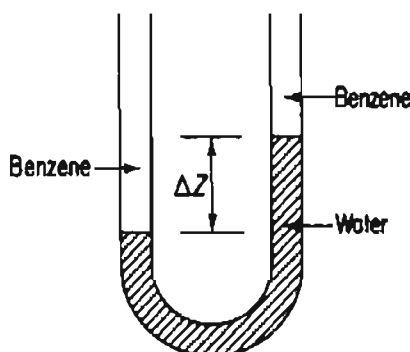

Figure P5.30
- *5.30 The indicating liquid in the manometer shown in Figure P5.30 is water, and the other liquid is benzene. These two liquids are essentially insoluble in each other. If the manometer reading is $\Delta Z = 36.3$ cm water, what is the pressure difference in kPa? The temperature is 25°C .